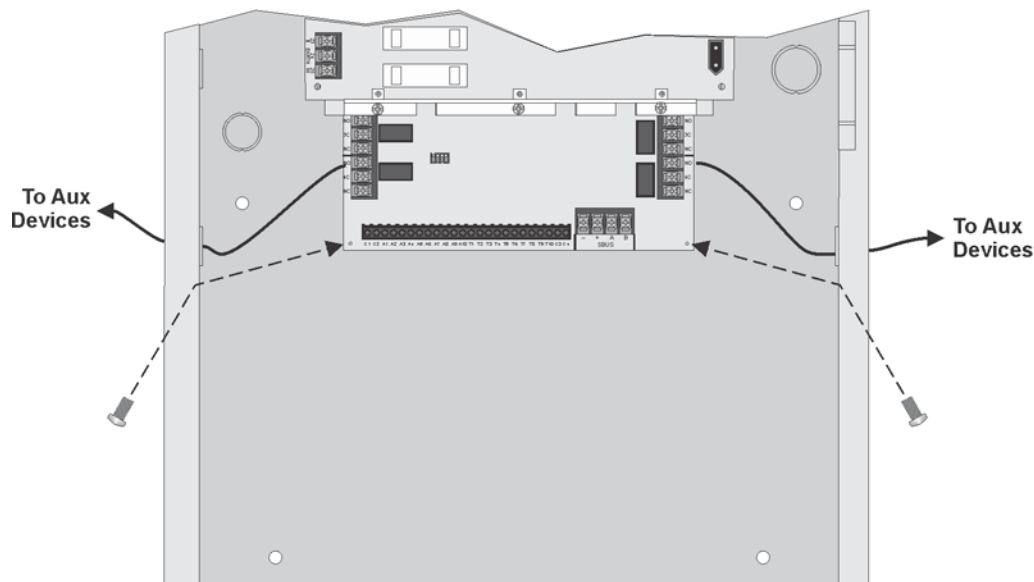

Figure 3-15 Installing the 5280 Into the 5208 Cabinet
2. Mount the SK-5280 onto the standoffs and bracket located in the cabinet. See Figure 3-15.